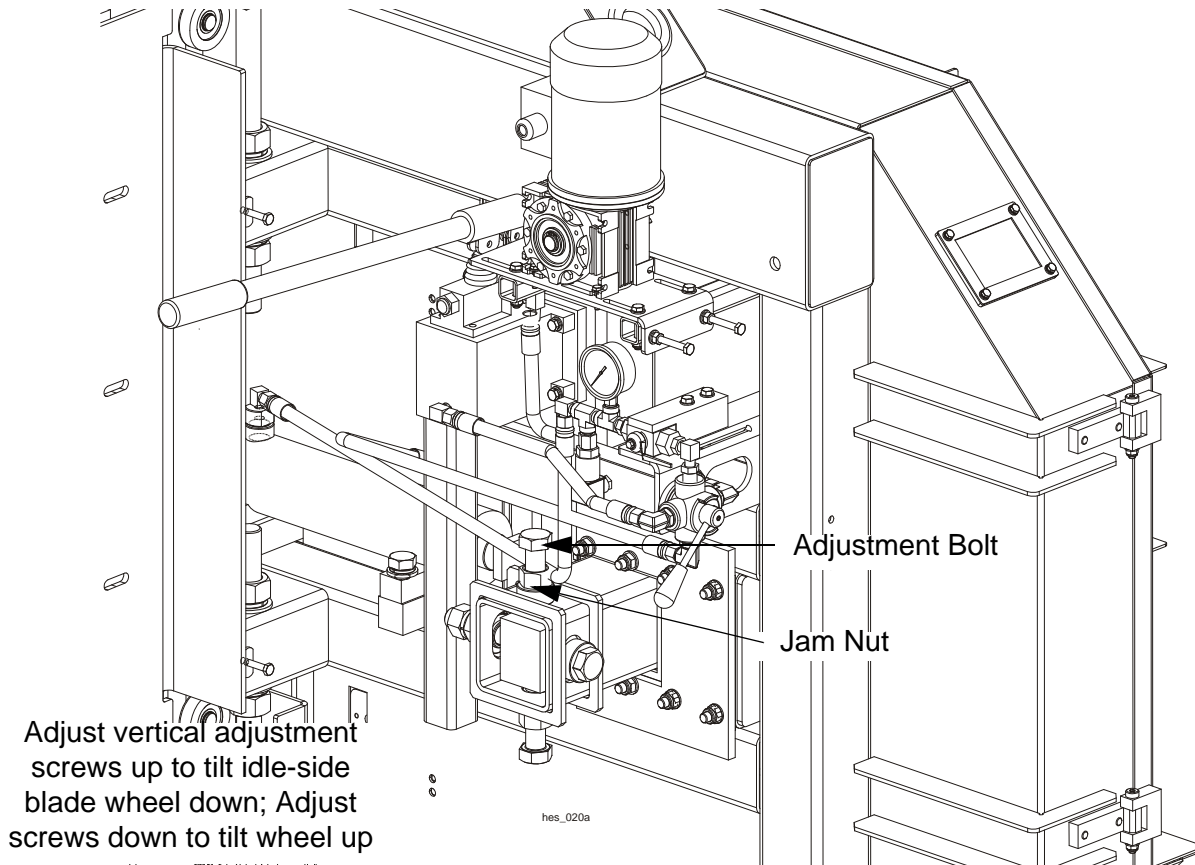

**FIG. 5-4 DRIVE SIDE WHEEL VERTICAL ADJUSTMENT (SOME PARTS WERE HIDDEN INTENTIONALLY)**
**See Figure 5-4.** Unbolt and remove inner cover of the the drive side wheel. Use the vertical adjustment screws to adjust the drive-side blade wheel. To tilt the wheel down, loosen two lock bolts and the top adjustment screw one quarter turn. Loosen the jam nut on the bottom adjustment screw and tighten the screw. Tighten the top and bottom jam nuts and lock bolts. To tilt the wheel up, loosen two lock bolts and the bottom adjustment screw one quarter turn. Loosen the jam nut on the top adjustment screw and tighten the screw. Tighten the top and bottom jam nuts and lock bolts. Mount the inner cover of the drive